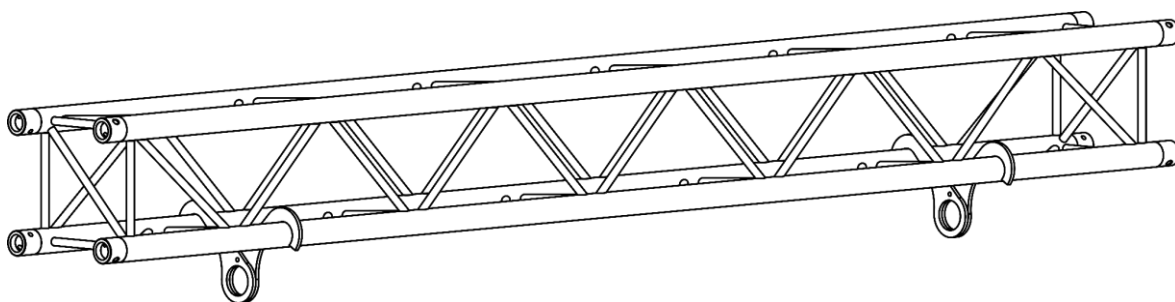

Fig. 04
01) Install the device on a truss. See Fig. 04.